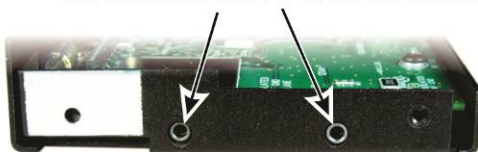

Figure 38. Installing RF Board in the Bottom Cover.
□ Bend the wire attached to the antenna connector upward so it will be above the RF board after it is installed. Place the RF board in the bottom cover as shown in Figure 38. Put the end of the board with the shield into the bottom cover first so the connectors on the bottom of the board fit into the openings in the end of the cover. Bend the lead to the antenna connector up as shown. When the board is lying flat against the standoffs secure it with the hardware shown.